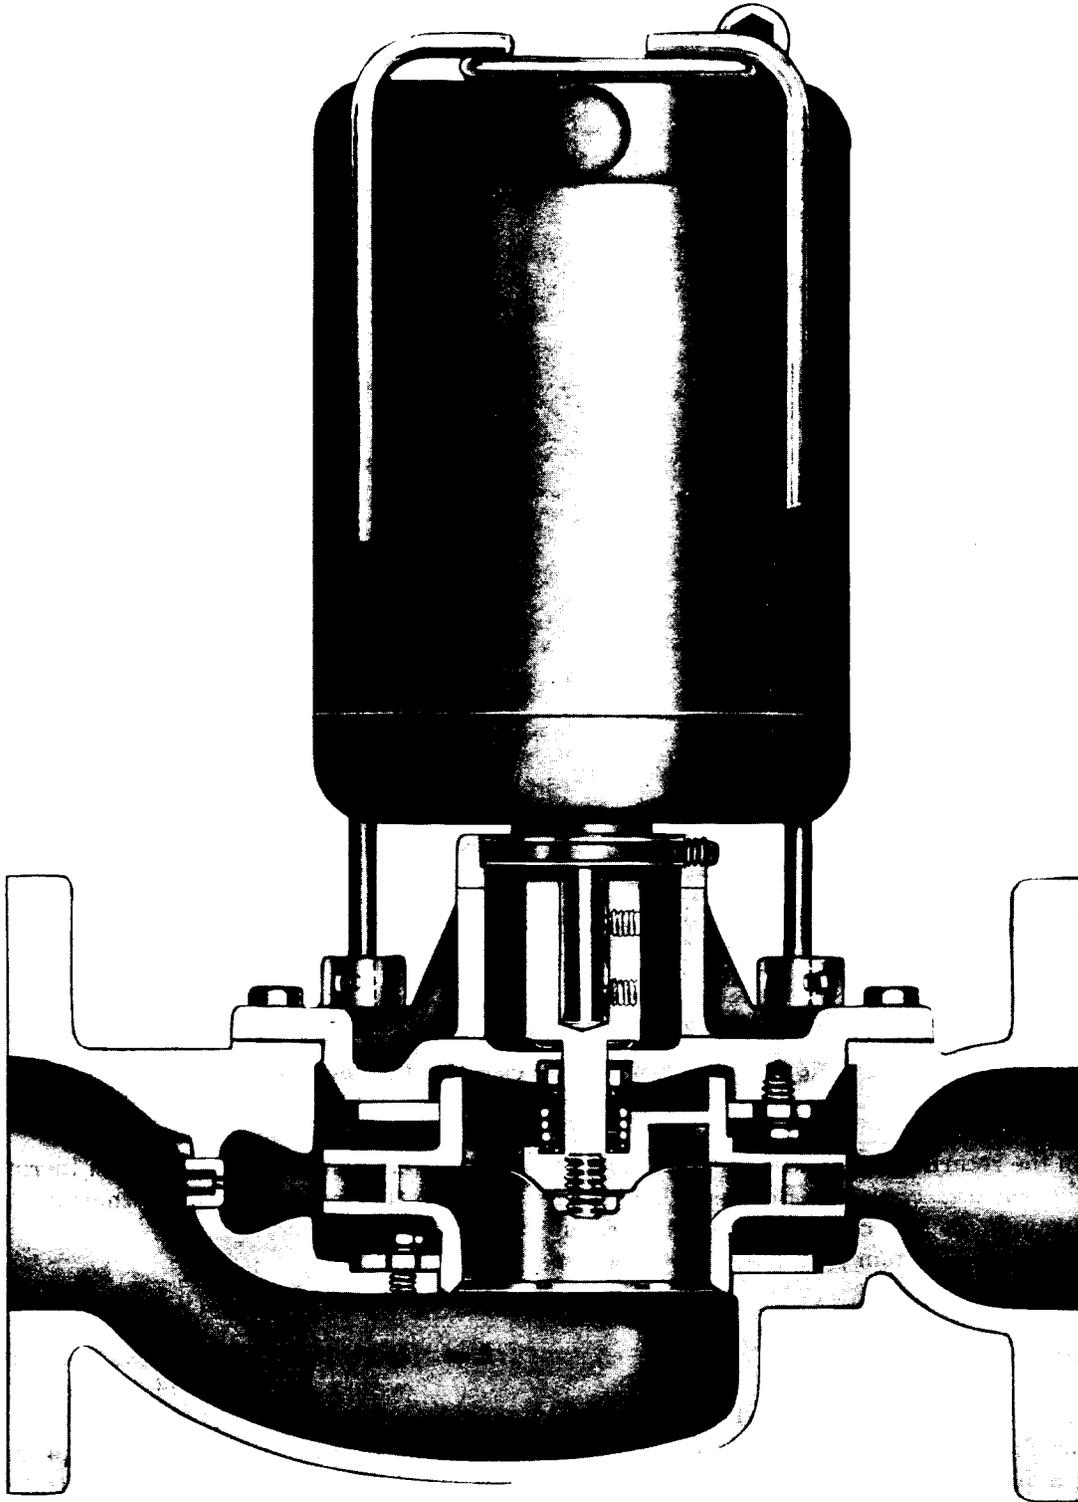

Fig. 27—Hot Water Circulator (Dunham-Bush, Inc.)
**8.43** Circulators used on hot-water heating systems vary from small fractional horsepower pumps handling a few gallons per minute to very large units handling several hundred gallons per minute. They are basically centrifugal pumps (Fig. 27) especially designed for hot-water service. One or more circulators may be employed on each system, depending on the size of the building, desired zoning, method of heat distribution, etc. Control